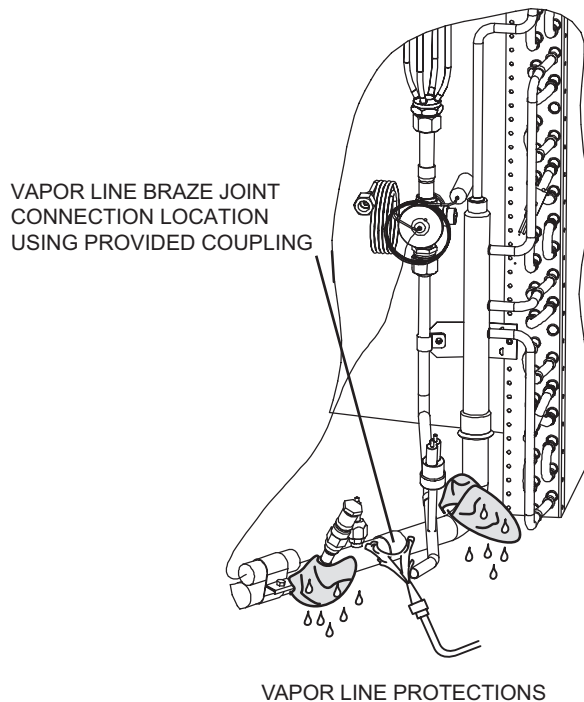
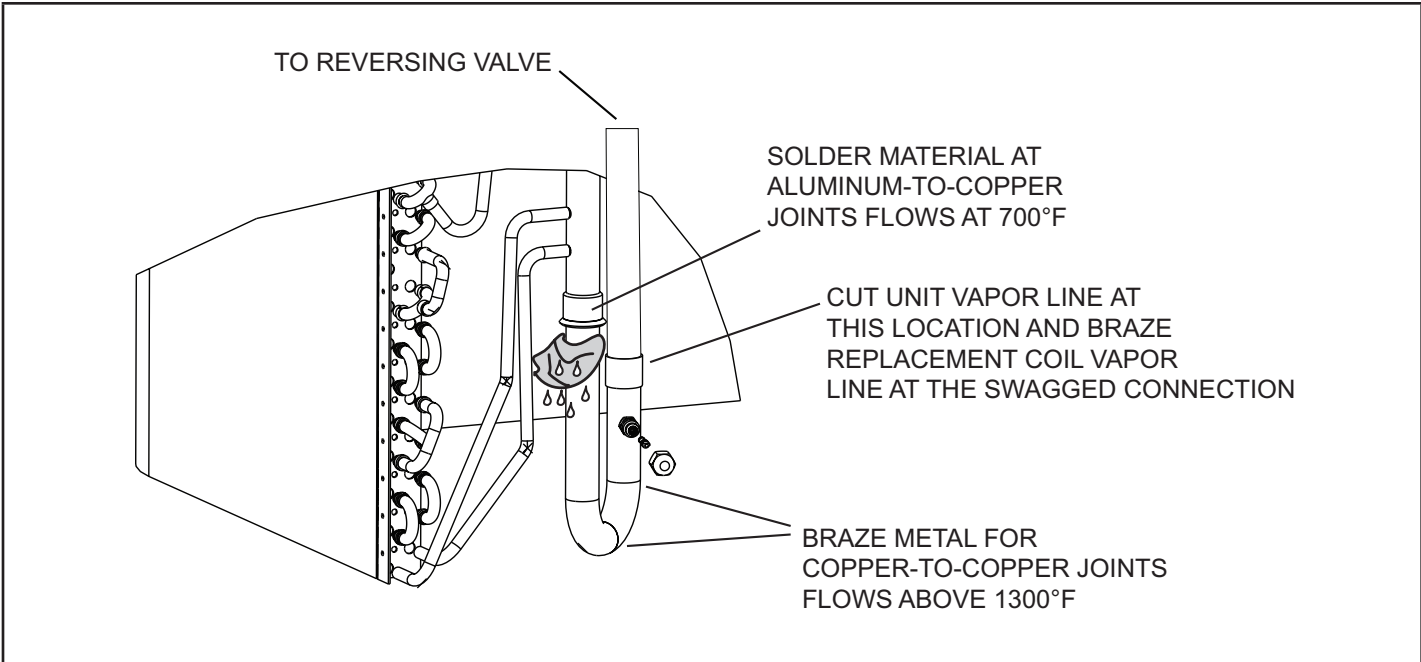

FIGURE 1. Replacement Coils with Vapor Manifold Located on Right Side of Coil
FIGURE 2. Replacement Coils with the Vapor Manifold and J-Tube Located on the Left Side of the Coil
- 5 - Remove the TXV sensing bulb from the vapor line. Cut the vapor line between the copper/aluminum joint and the reversing valve using the replacement coil as a guide. The connection must be a minimum of 3" from the copper/aluminum joint. Allow sufficient line length to make final connection. See figure 1 for coils with the vapor manifold on the right side of the coil and figure 2 for coils with the vapor manifold on the left side of the coil for replacement coil joint location.
When brazing in the field copper-to-copper joints for the replacement coil, cut and braze a minimum of 3" from the factory copper-to-aluminum joints. Apply a wet cloth to the copper-to-aluminum joints and the pressure switch to prevent heat damage. See figures 1 and 2.
- 9 - Carefully measure and cut the unit vapor line at the desired replacement vapor line connection, a minimum of 3" from the copper/aluminum joint. On coils with the vapor line manifold on the right side of the coil, the vapor line joint will be made using the coupling provided with the replacement coil, see figure 1. On coils with the vapor manifold on the left side of the coil, the vapor line connection will be made using the swagged vapor line connection on the replacement coil J-tube, see figure 2.
- 10 - Make the vapor line braze joint using the coupling as shown in figure 1 on coils with the manifold on the right side of the coil. On coils with the vapor line manifold on the left side of the coil, make the vapor line braze joint at the swagged J-tube connection as shown in figure 2. Protect the copper/aluminum joint which has low temperature alloy (flows at 700°F) on the replacement coil using wet rags as shown in figures 1 and 2.